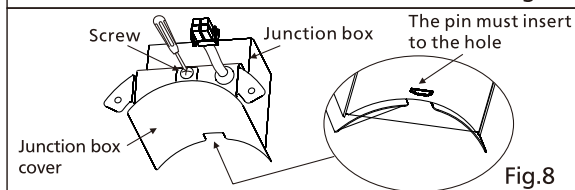

Fig.8
8. Reattach the junction box cover to junction box by using screw. (Fig. 8)